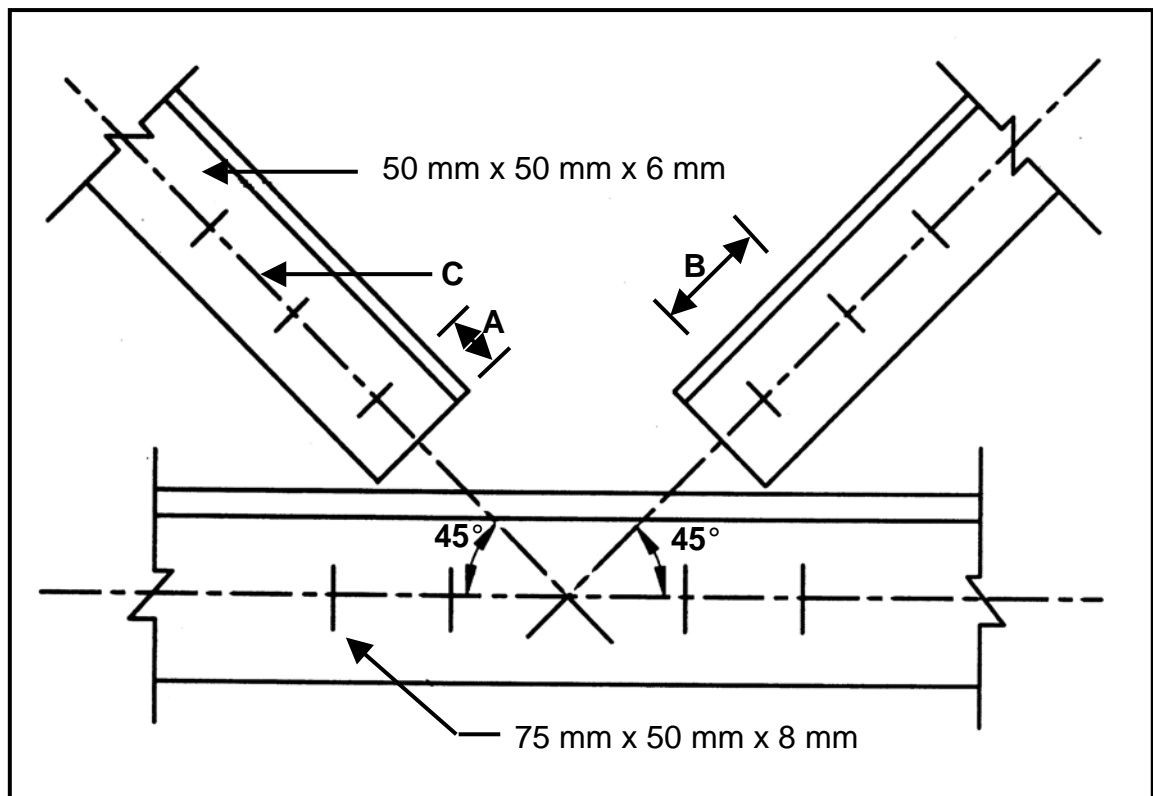

FIGURE 1.2
- 1.2 FIGURE 1.2 on the next page shows the different members of an incomplete junction of a steel roof truss. Refer to the figure and answer the questions that follow.